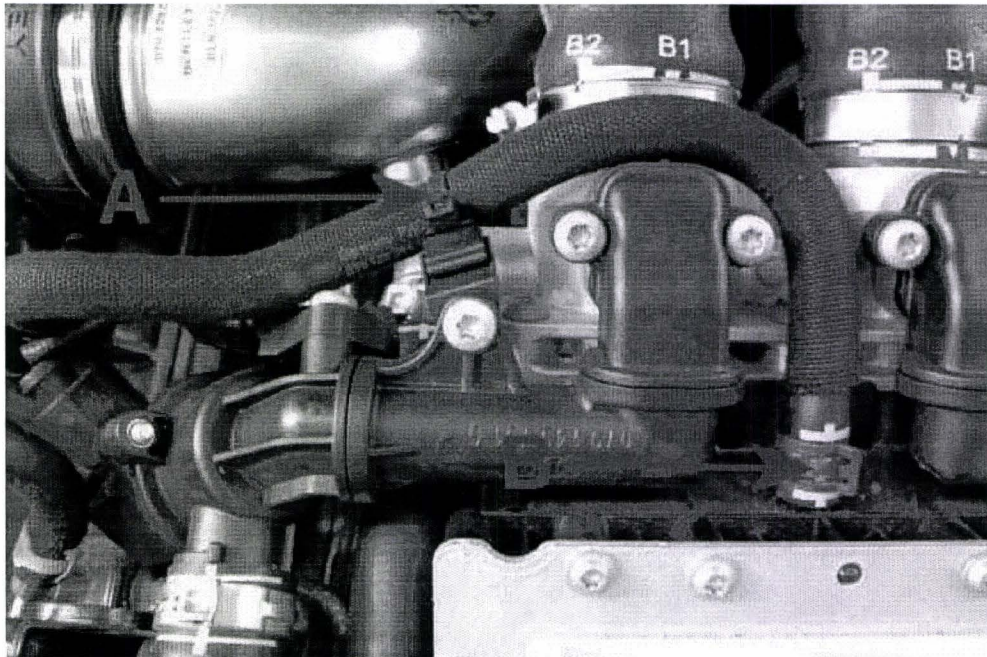

Figure 2
3. Referring to Figure 2 – Remove the cable tie (Point A) disconnect the hose from the charge cooler (Point B) and discard the springband clip